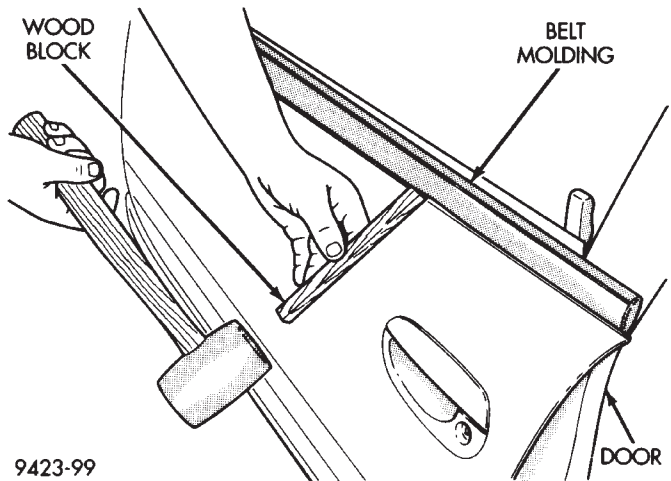

Fig. 45 Door Belt Molding—Typical
- (1) Using a rubber mallet and block of wood, tap upward at each clip holding belt molding to door (Fig. 45).
- (2) Separate belt molding from door.